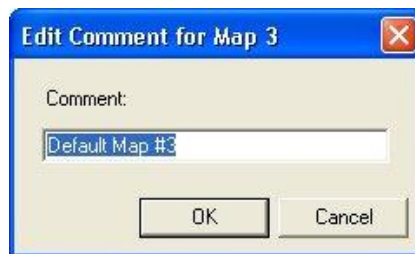

Figure 12 - Edit Map Comment Dialog
- When editing a map clicking the right mouse button in the graph area brings up a context menu that allows the comment associated with the map to be edited. When this menu option is selected the Edit Map Comment dialog (Figure 12) is displayed. Make any changes that are required and then click **OK** or **Cancel** to leave the comment unchanged. Note that these comments are only stored in the disk file and are not read from or written to the EPAS500CE Competition ECU.